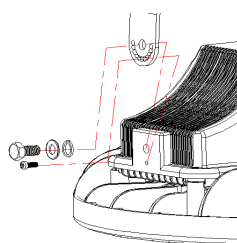

FIG. 7
- Install the yoke on fixture. See Fig. 7